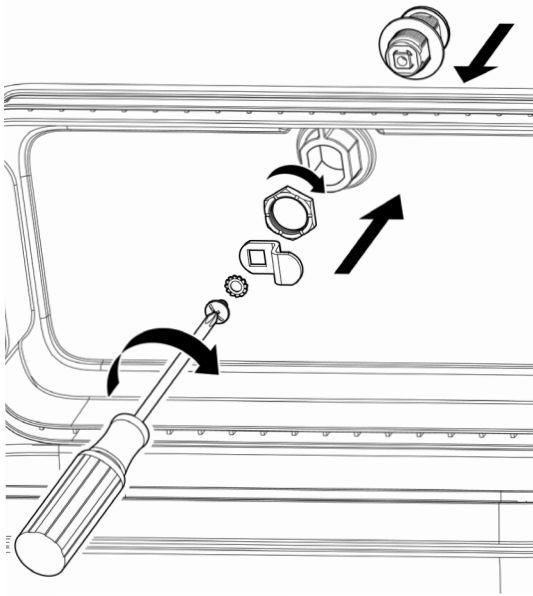
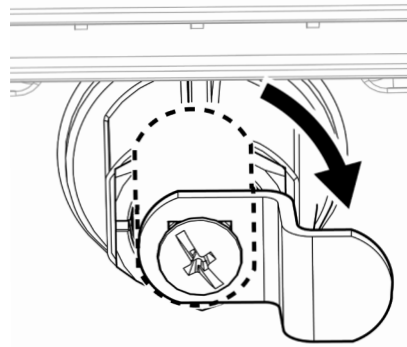

Figure 5: Installation of new lock core and hardware
Figure 6: L-bracket in the unlocked position; parallel to the edge of the accessory lid
- b. **Thread the nut clockwise onto the lock core from the inside of the accessory** (Figure 5). Then use a 22 mm or adjustable wrench to tighten the nut securely against the lock core.
- c. **Install the L-bracket from the inside of the accessory and position it in the “unlocked” position** (Figure 6). Insert the lock washer and retaining screw into the end of the lock core. Thread in the retaining screw by hand and use a Phillips Head screwdriver to tighten until fully seated and secure (Figure 5). Do not overtighten.